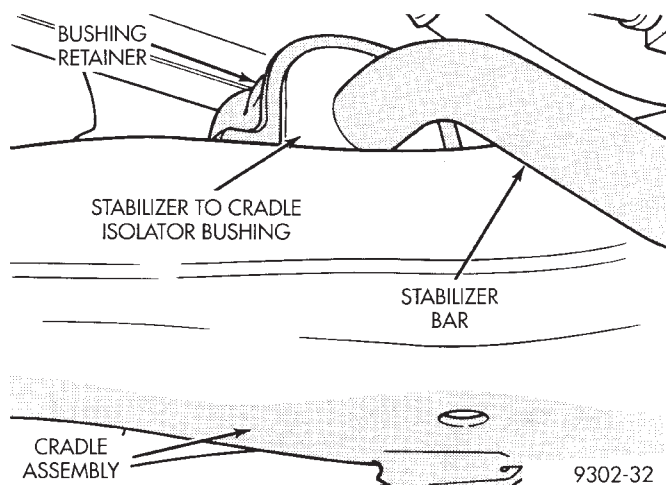

Fig. 15 Stabilizer Bar Isolator Bushing Attachment To Cradle
(8) Remove the 2 bolts each, attaching the stabilizer bushing retainer and bushing to cradle assembly (Fig. 15).